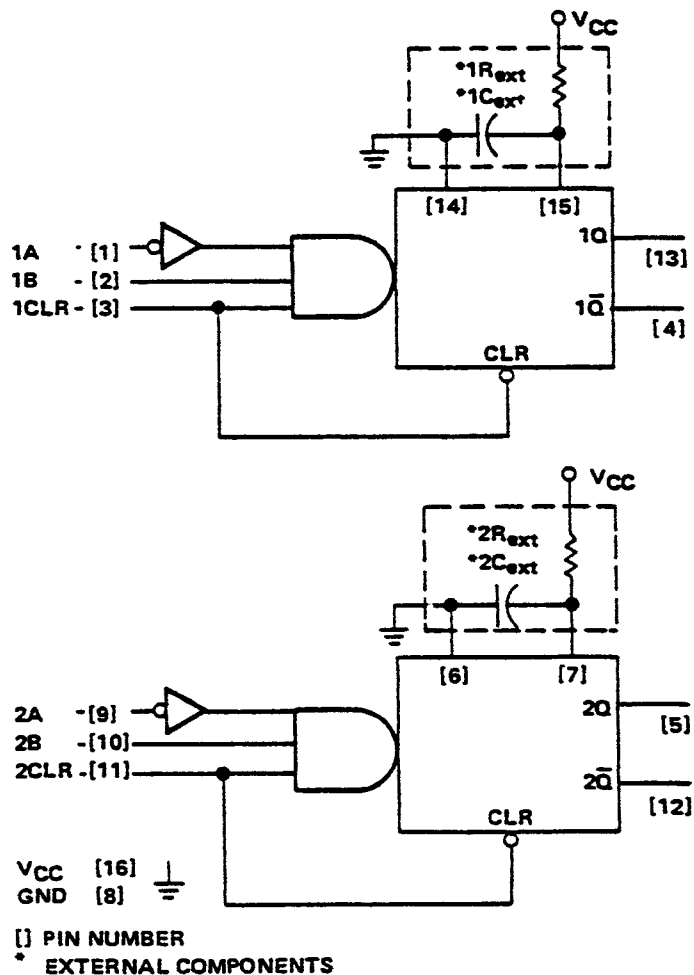

FIGURE 1. LS123 Logic Diagram
A functional block diagram is shown in Figure 1. Each one-shot has two inputs, one active low and one active high, which allow both leading or trailing edge triggering. Once triggered, the basic pulse width may be extended by
- An external resistor (R_{ext}) and an external capacitor (C_{ext}) are required as shown in Figure 1 for proper circuit operation.